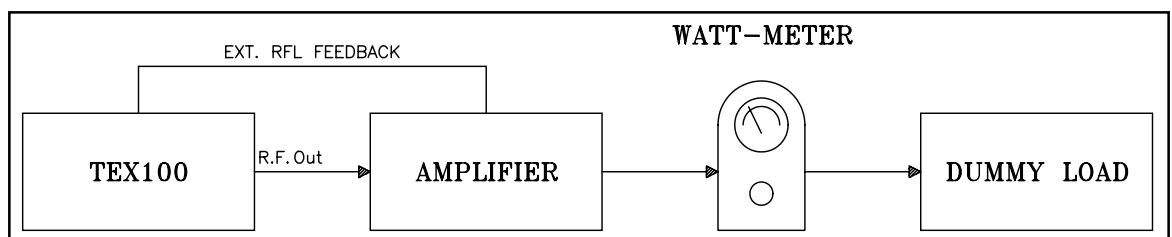

figure 10.5
- Perform the setups below (fig. 10.5 and 10.6).